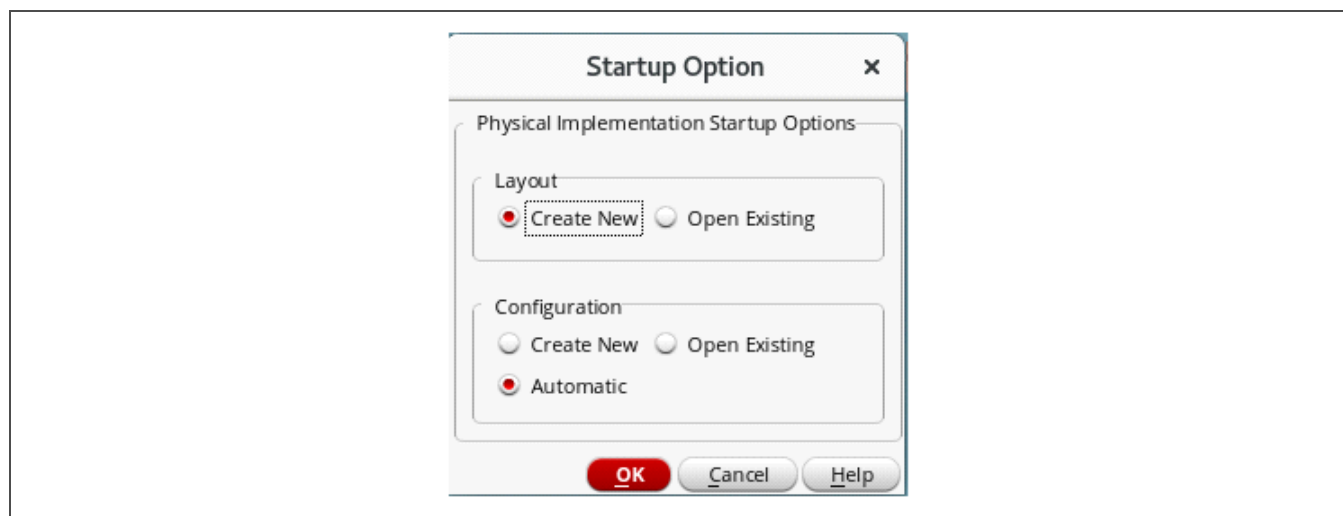

Figure 4-1. VXL Startup Option Form
1. From a schematic view or open layout view, execute the menu command **Launch > Layout XL**. The Startup Option form shown in *Figure 4-1* opens when starting from a schematic without a matching layout view.